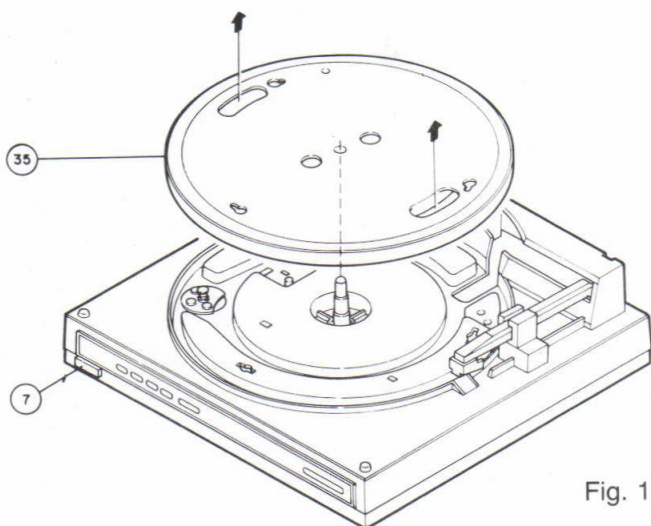

Fig. 1
1. Turn the power off, disconnect the AC Power Cord from the plug, and remove the Turntable (35). (Figure 1)